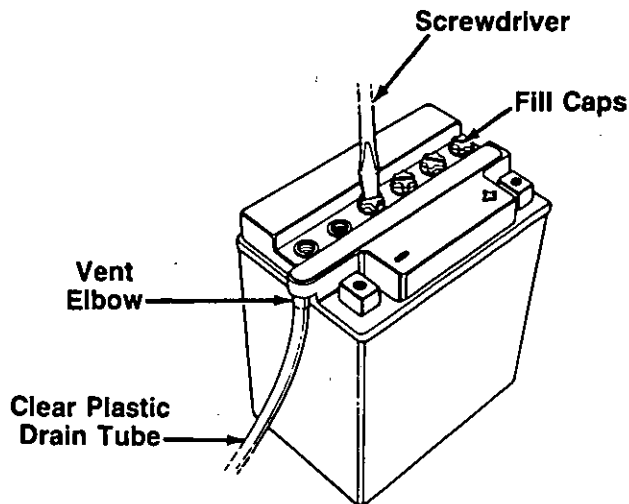

FIGURE 8.
3. Remove the six fill caps from the top of the battery with a screwdriver. Be careful not to damage the fill caps. See figure 8. ←